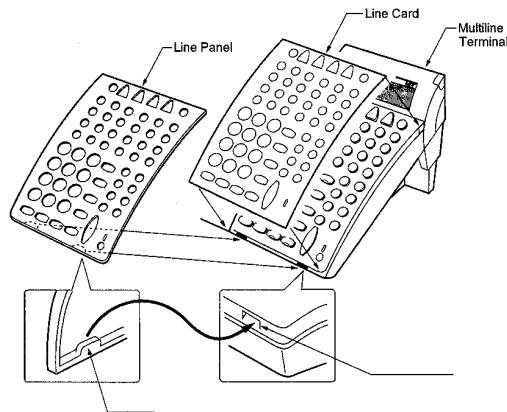

Figure 6-8: Installing Line Card and Plastic Panel on a Multiline Terminal
2. Place the tabs on the bottom of the plastic panel into the grooves at the terminal bottom, and press top right and left ends to secure plastic panel to the Multiline Terminal. Refer *Figure 6-8: Installing Line Card and Plastic Panel on a Multiline Terminal*.